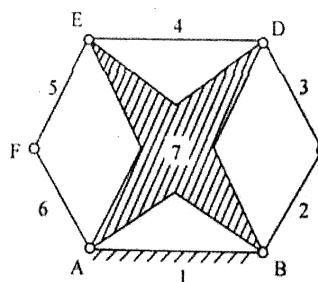

Figure 1b.
- b. Determine the degree of freedom of the linkages shown in the Fig. 1b.